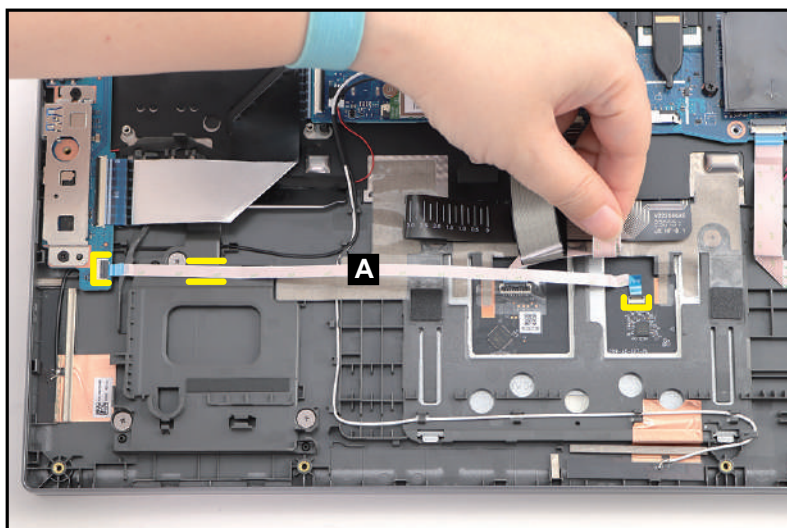

Figure 3-47. Touchpad Module Removal
1. Lift the keyboard FPC and touchpad FFC. Then disconnect the fingerprint FFC (A) from the USB board and touchpad module connectors (Figure 3-47).
2. Carefully detach the fingerprint FFC from its underneath adhesive (highlighted with the yellow lines) as shown in Figure 3-47. Then remove the FFC.